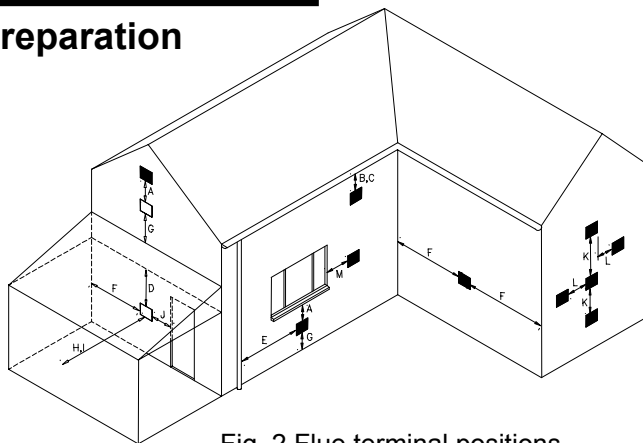

Fig. 2 Flue terminal positions
2. The fan unit outlet must be positioned such that the combustion products can disperse freely at all times. (See Fig. 2)